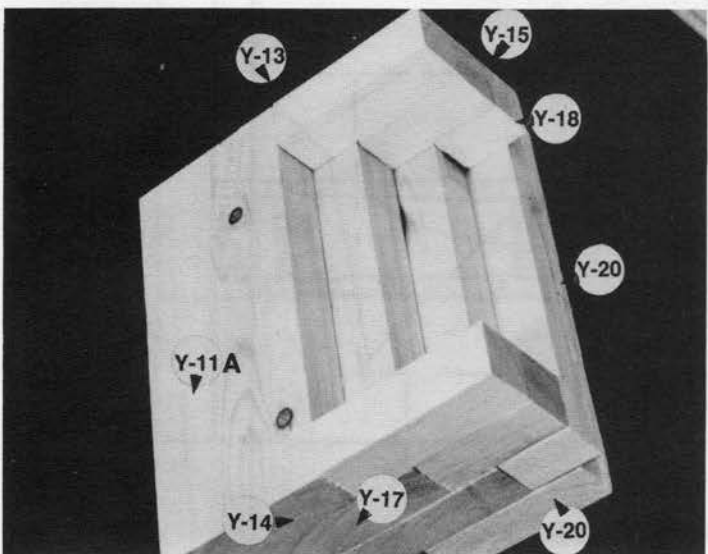

Fig. 5
STEP 5: Complete the assembly of parts Y-11A through Y-20. This assembly will not be permanently attached to the house, but will remain removable. (FIGURE 5).